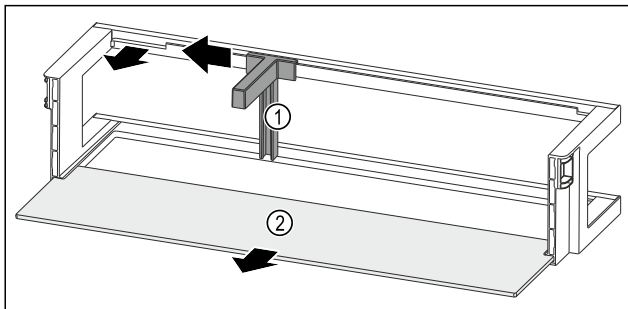

Fig. 49 Door rack with bottle holder and shelf
- Slide the bottle holder Fig. 49 (1) to the side as far as the recess.
- Remove the bottle holder Fig. 49 (1).
- Remove the shelf Fig. 49 (2).